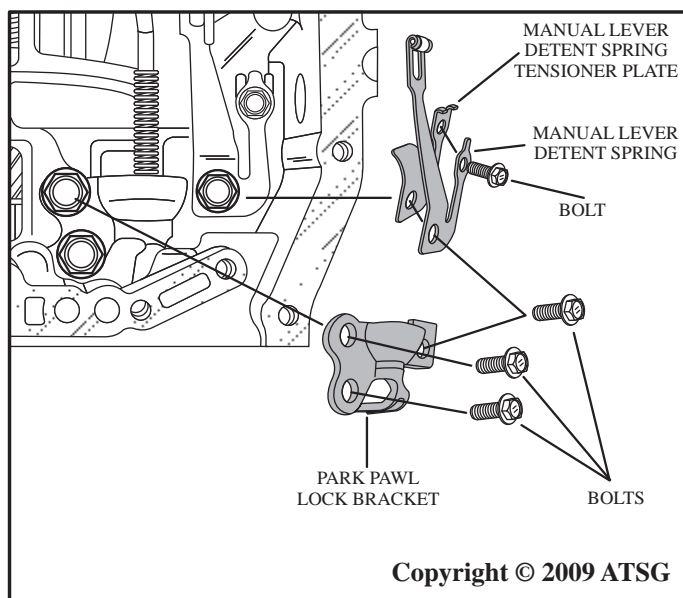

Figure 23
21. Remove the bolts from the manual lever detent spring and the manual lever detent spring tensioner plate and remove the detent spring and tensioner plate as shown in Figure 23.
22. Remove the bolts from the park pawl lock bracket and remove the park pawl lock bracket as shown in Figure 23.